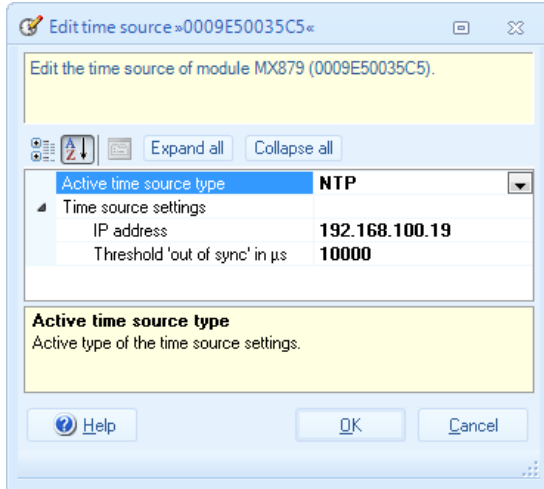

Fig. 7.13 Dialog *Edit time source*
2. Select **NTP** in **Active time source type** (Fig. 7.13).